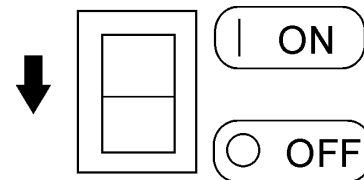

Figure 24. Idle Control Switch (Off)
- Place the **idle control switch** (Figure 24) in the **OFF** position.